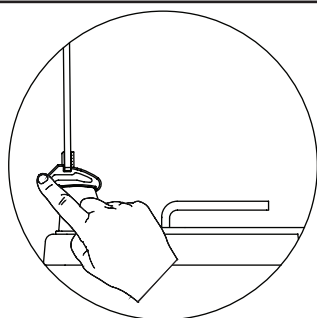

Figure 1
1. As shown in figure 1, the glass door can be closed by pressing the latch located on the plastic clip with a finger.